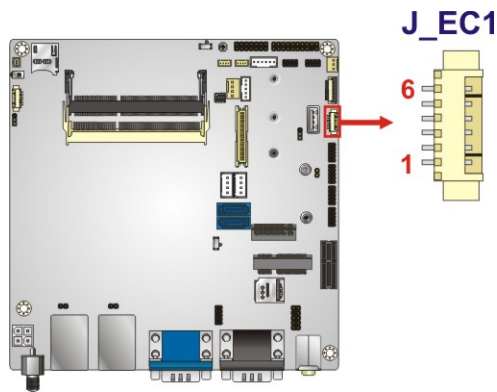

Figure 3-25: EC SPI Flash Connector Location
- CN Location:** See **Figure 3-25**